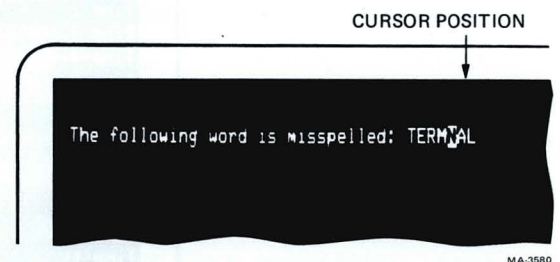

Figure 1-19 Positioning the Cursor to Insert a Character
1. Move the cursor to the point where the character is to be inserted (Figure 1-19).